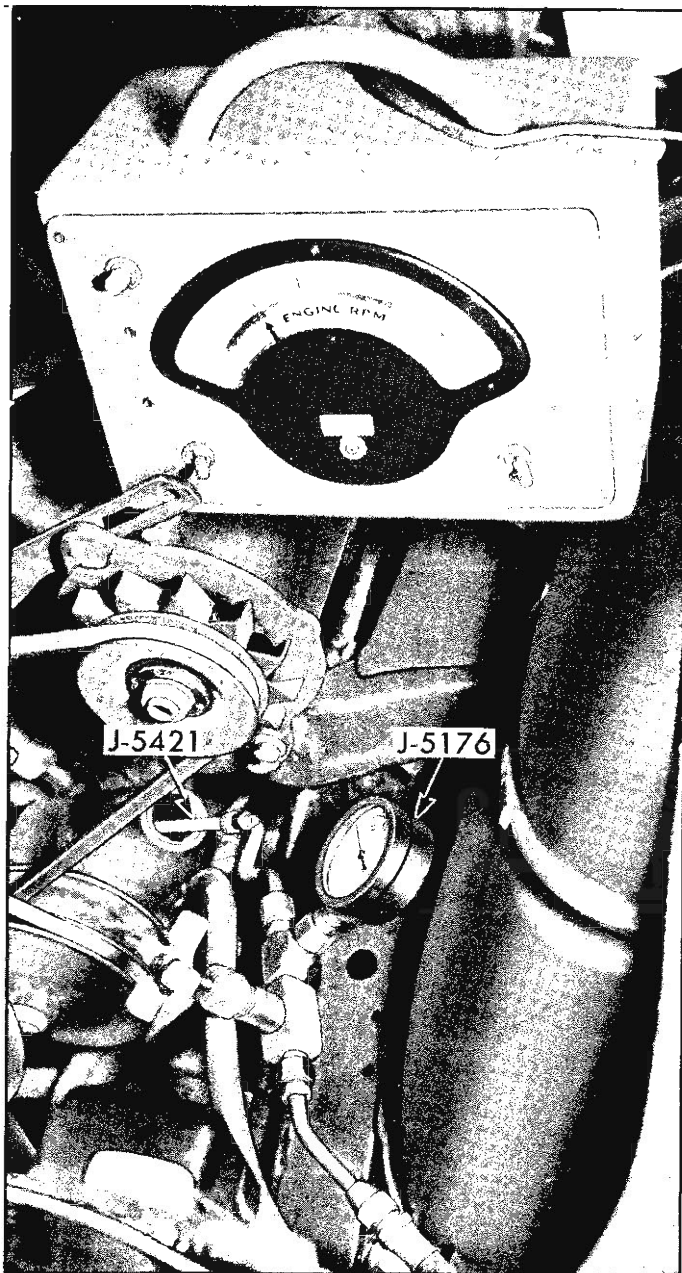

Fig. 8—Power Steering Diagnosis
- A. With engine not running, disconnect flexible pressure line from steel pressure line of pump and install Tool J-5176 as shown in Figure 8. Gauge must be between shut-off valve and pump. Shut-off valve must be open.